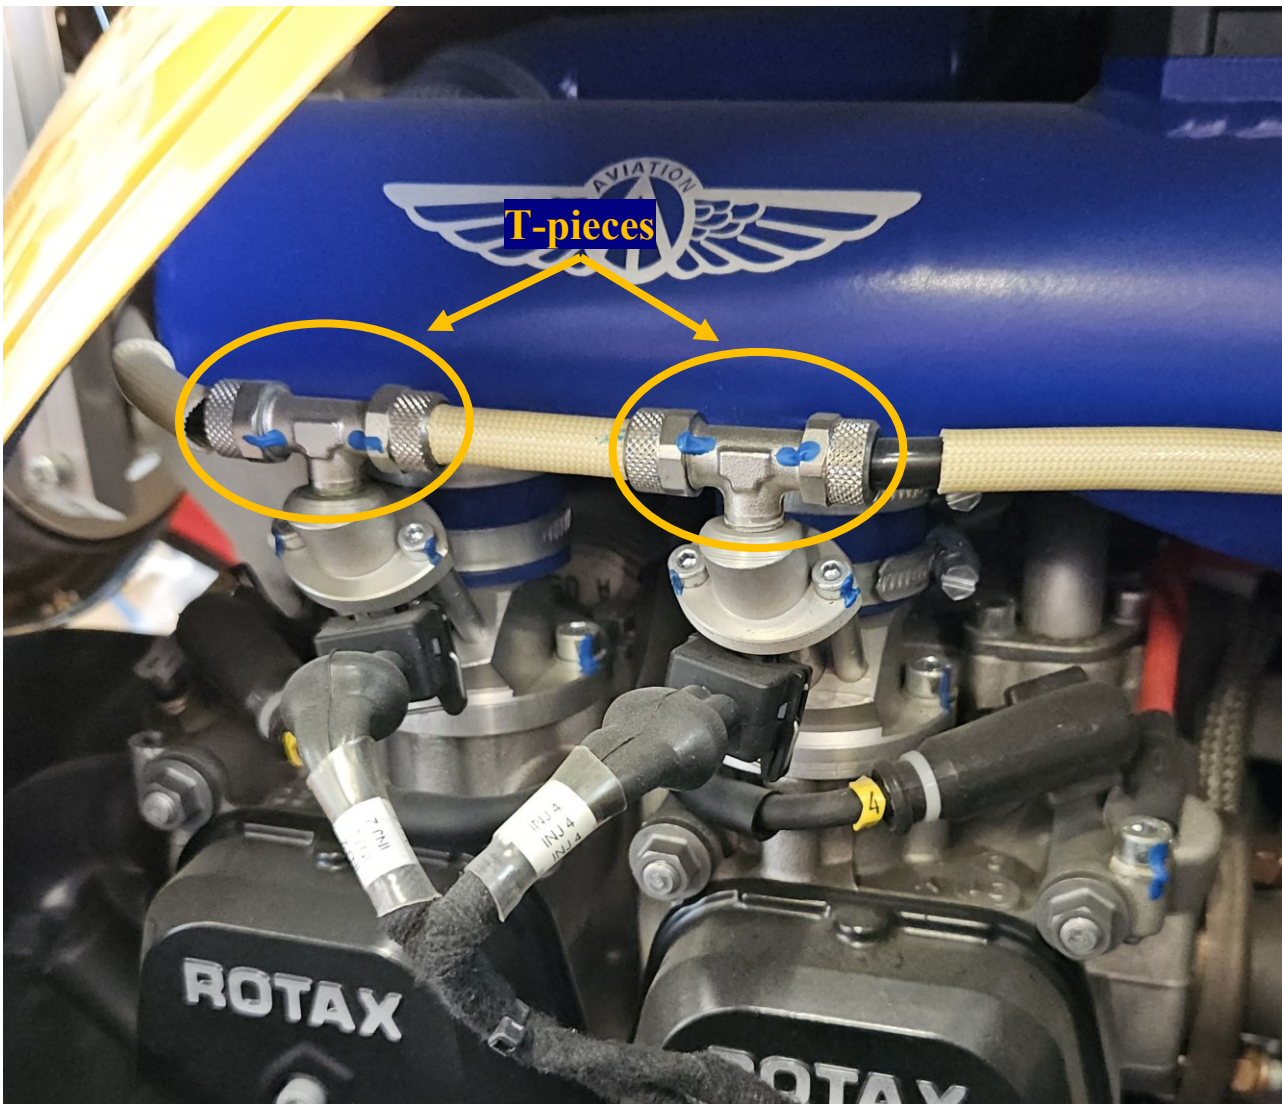

Fig. 1 Engine compartment with T-pieces marked
- 1) Locate the T-pieces in the fuel system. The T-pieces (4 pieces per machine) are located on both sides of the engine housing (left and right) - see Fig.1. They are visible immediately after removing the inspection windows of the engine compartment.